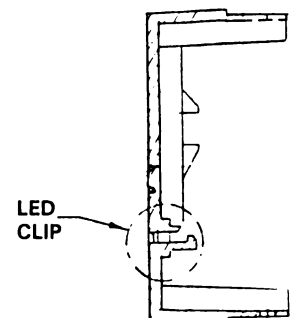

Fig. 3-9. Front Bezel Cutaway View
3.3.1 Lay the bezel in front of the drive. Insert the LED into the LED CLIP inside the bezel. See Fig. 3-9.